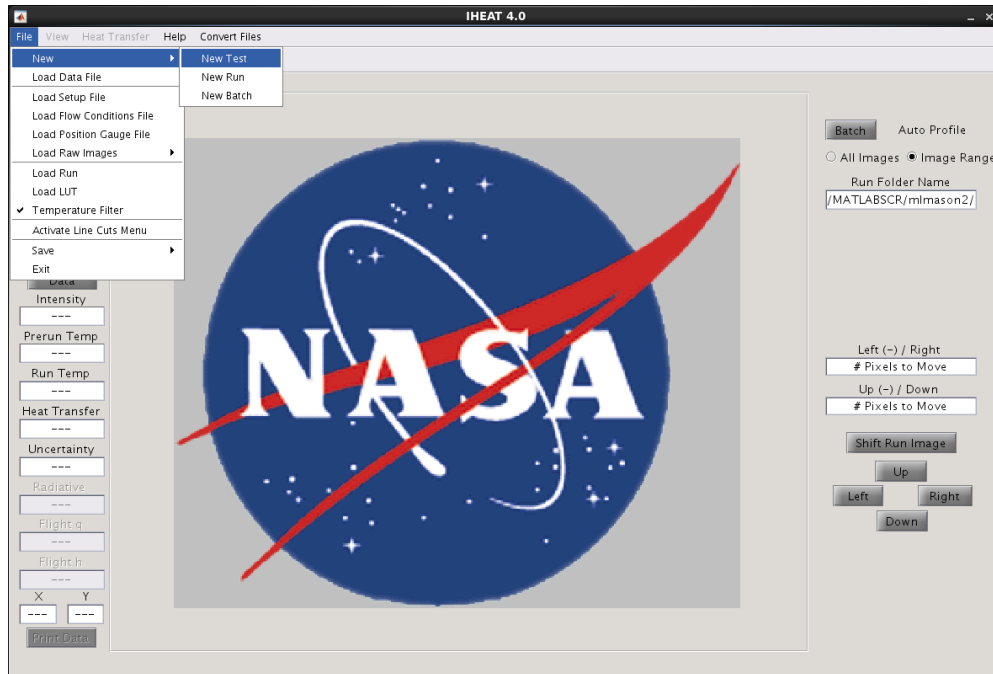

Figure 1: File Menu, New.
1. Under *File > New*, the following three options appear (as shown in figure 1): *New Test*, *New Run*, and *New Batch*. The difference between these three options is as follows:
3. The following three items in the *File* menu in figure 1 are the *Load Setup File*, *Load Flow Conditions File* and *Load Position Gauge File* options. These options are used to bring in the required information about the facility and the flow conditions to reduce a new phosphor run. These files can be loaded into the software in any order. When a new file is loaded into the software, the variables extracted previously from a file of the same type are overwritten. The file name extension for each of these file types is as follows: set-up files